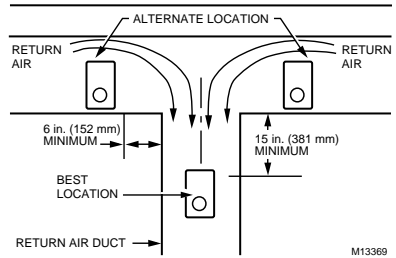

Fig. 3. Selecting duct location for control.
When mounting near an elbow area, locate the control 6 in. (152 mm) upstream from the elbow so the element is exposed to the normal airflow (Fig. 3).
1. Locate the control at least 8 in. (203 mm) upstream from the humidifier in the return air duct. See Fig. 3.